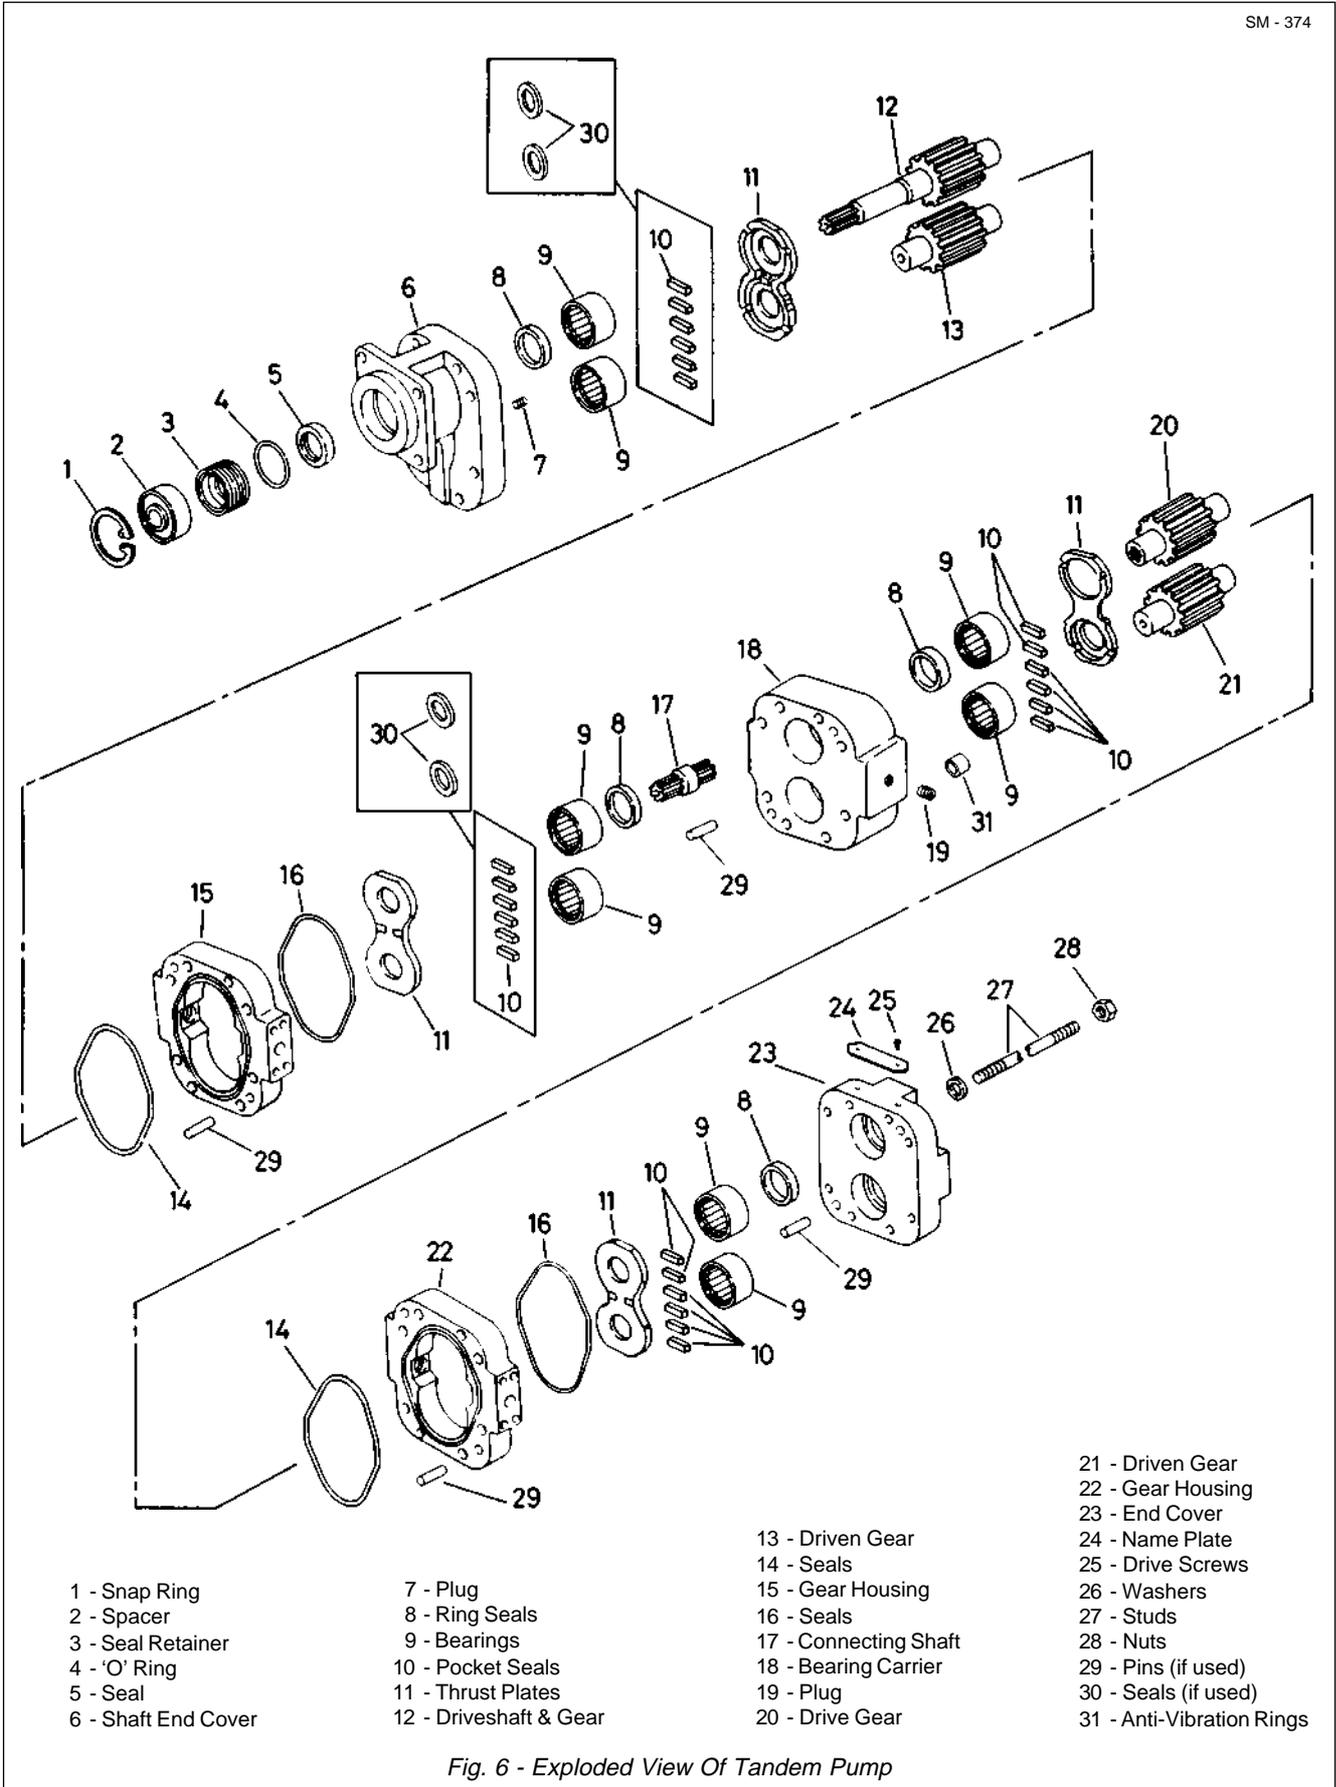

Fig. 6 - Exploded View Of Tandem Pump
11. Join ends of lockwire (31) and secure suction screens (18) together with lockwire (31).
**Note:** Do not grip the body of suction screens (18). Use a suitable tool, as shown in Fig. 6, to grip the hexagon head at the neck of each suction screen.
12. Install new gasket (15) and access cover (3) on hydraulic tank (1) and secure with bolts (7) and lockwashers (8). Remove blanking cap and plug from hydraulic line and tank port and install inter-